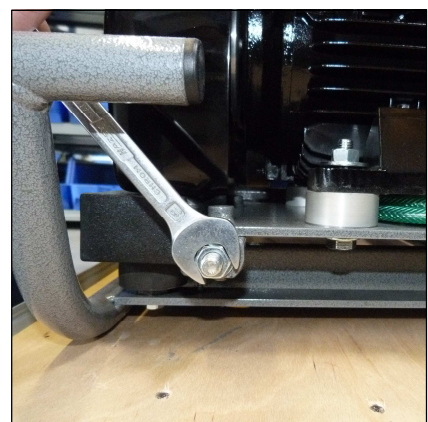

Fig. 3 - Turn clamp nut until correct V-belt tension
- Turn clamp nut until correct V-belt tension (Fig. 3).